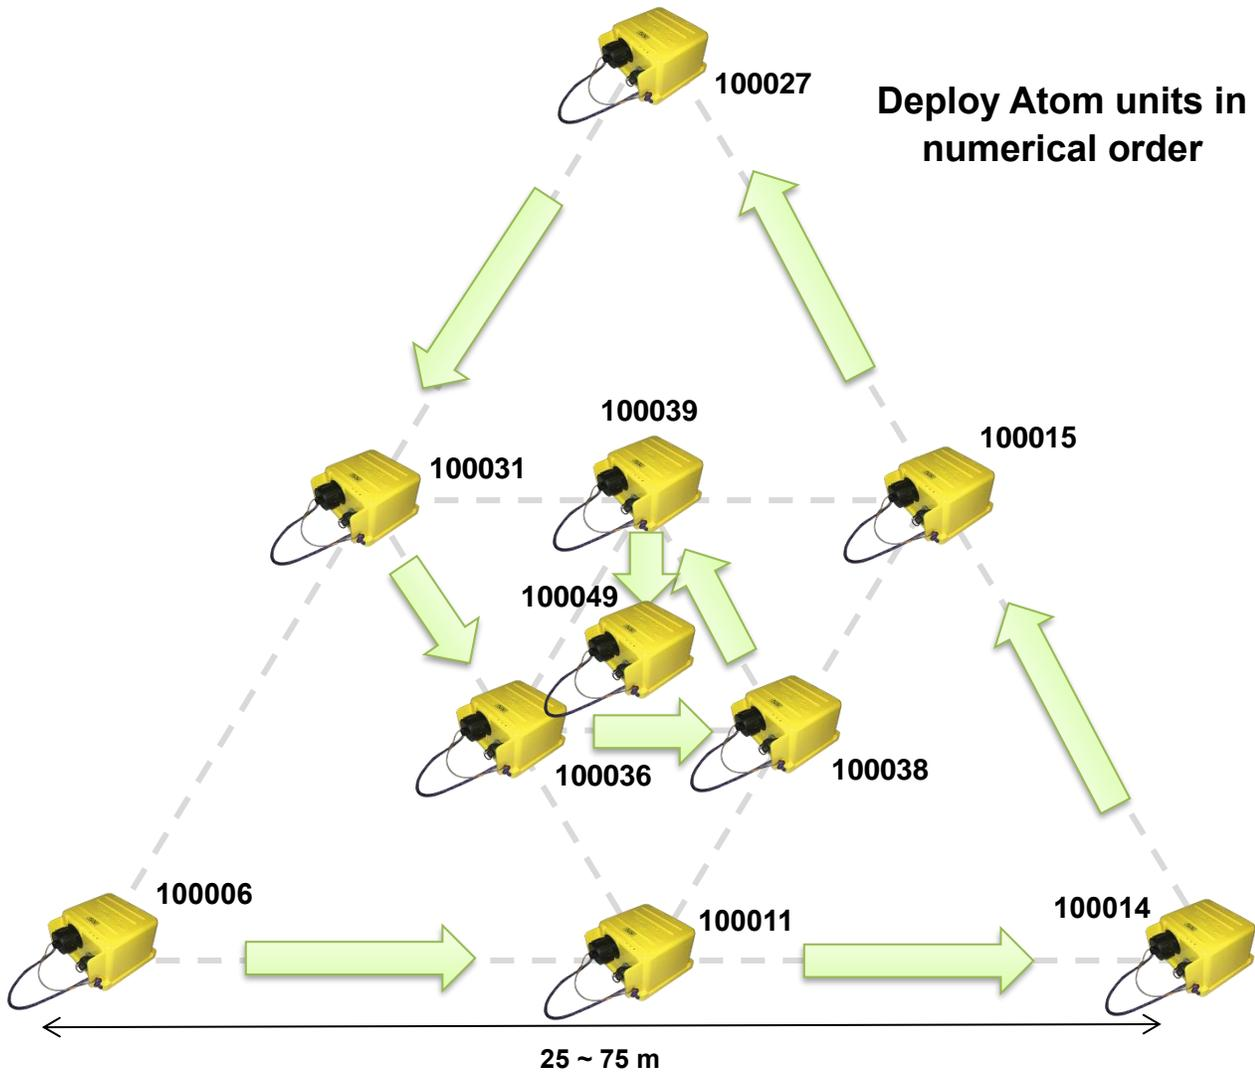

Figure 2.6 T-shaped array (T10) using 10 Atom AUs.
2) A typical example of a T-shape array and an L-shape array for an AVS30 survey using Atom units is shown in Figures 2.6 and 2.7. For the sake of simplicity, deploy the Atoms in numerical order of ID. In this example, the Atom ID's are 10006 to 100049 (T-shape) or 100050 (L-shape).